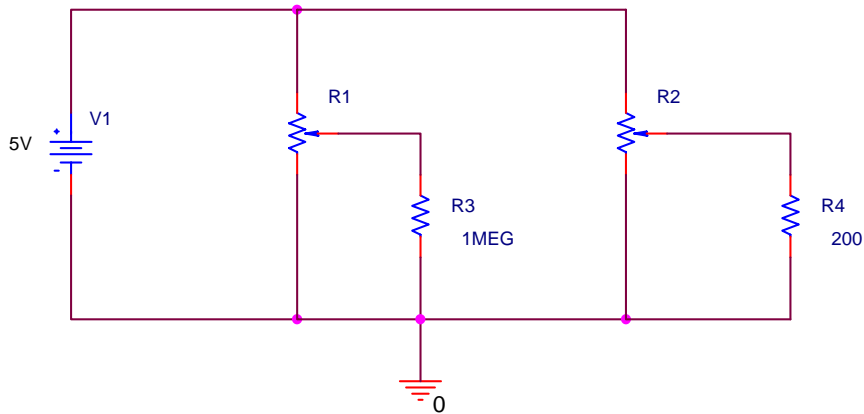

Figure B-5
- Using PSpice, create the circuit shown in figure B-5.